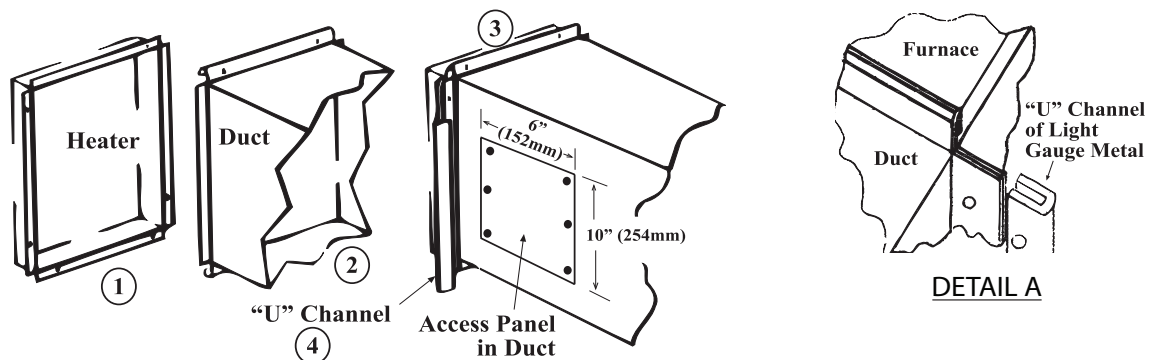

Figure 5. Connecting Ductwork to Furnace
- **Access panels:** Install removable access panels (see Figure 5) on both the upstream and downstream sides of the furnace. The access panels must be accessible when the furnace is in service and should be a minimum of 6 × 10 inches (152 × 254 mm) in size so smoke or reflected light may be observed inside the casing to indicate the presence of leaks in the heat exchanger. Ensure that the access panels are installed in such a manner so as to prevent leakage.
- **Supply air duct/furnace horizontal connection:** The seal between the furnace and the duct must be mechanical using U-type flanges on the top and bottom of the connecting duct to ensure tight joints and an airtight fit. Refer to Figure 5 and perform the following steps: